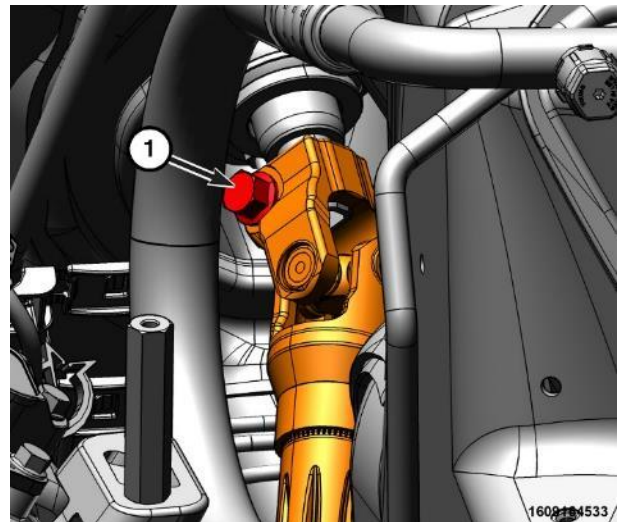

Figure 33 – Intermediate Shaft
- a. Remove and **DISCARD** the intermediate shaft pinch bolt (1) (Figure 33).